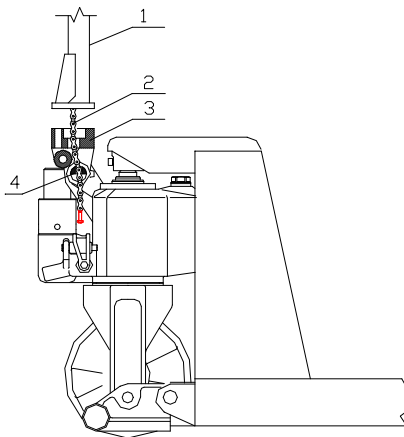

Fig. 1
3.1 See Fig. 1. First, raise Handle (1), pass in order Roller Chain (2) through the holes of Rack (3) and Axle Pin (4).